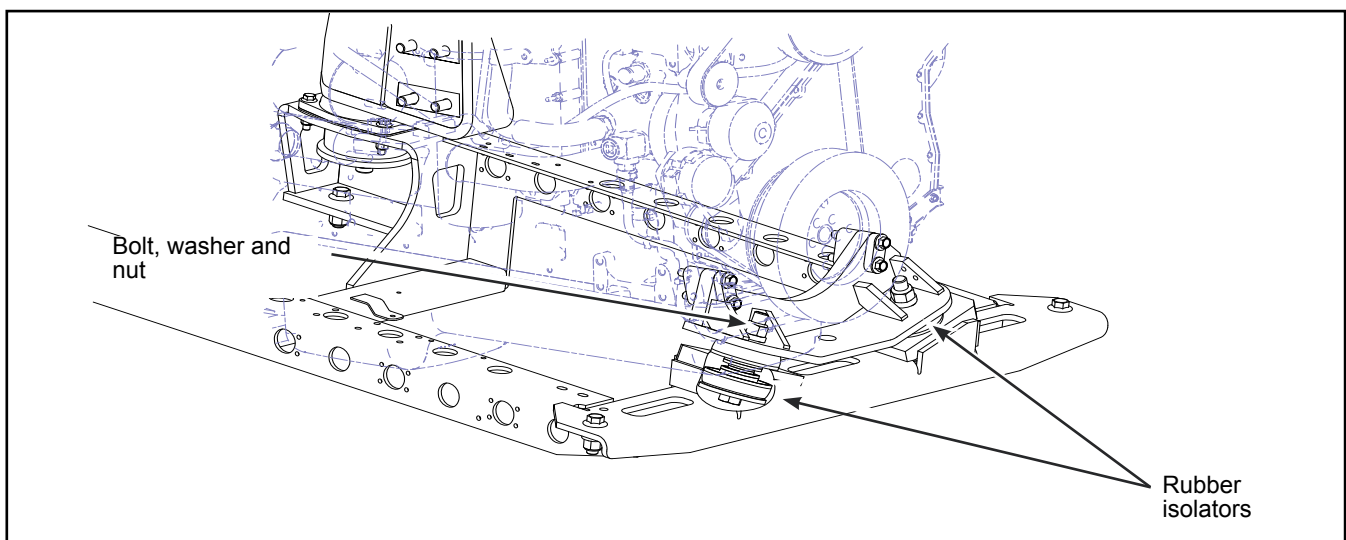

Figure 10 - Location of Rubber isolators
- 1.30. Remove the two bolts that retain the rubber isolators to the cradle. Retain the hardware. See Figure 10.
- 1.33. Install the two new N66492 rubber isolators on the cradle. See Figures 10 and 11.